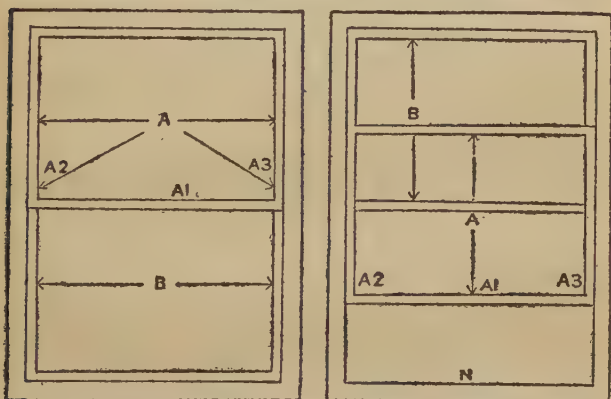

Fig. 2.—How to Paint an Ordinary Counter-balanced Window
**Windows.**—Fig. 2 shows how to paint the ordinary counter-balanced window. First pull down the top sash A and raise the bottom sash B to its full extent. This will disclose bar A1 and some inches of bars A2 and A3, which should be painted with A1. Next pull down B and paint the top part of A. Paint the top part of the runners of both windows and also sides of runners. After these parts have been dealt with, any procedure may be used to finish the window.